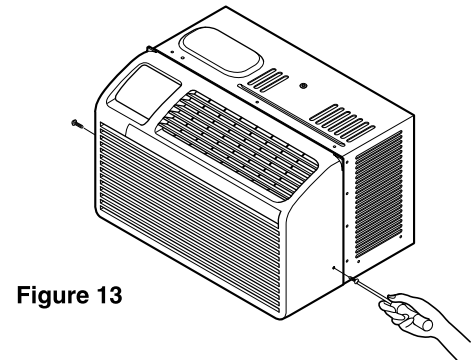

Figure 13
2. Using a screwdriver, remove the screw from the front grille. (See Figure 13)